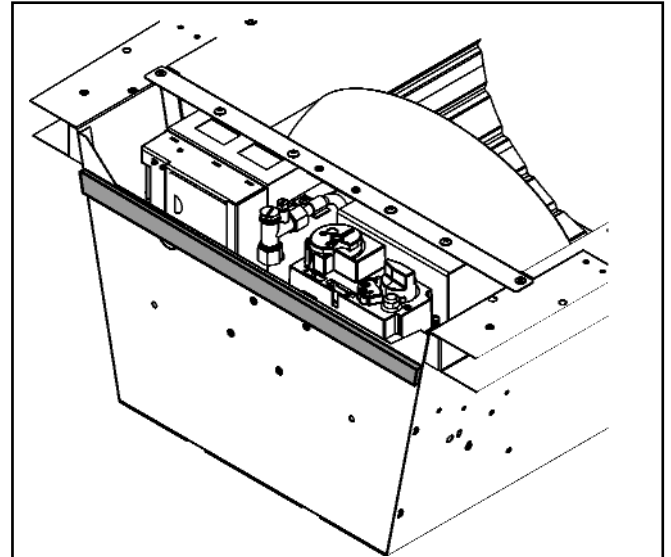

Figure 16. Fitting the foam seal to the base of the hotbox.
**9.** Supplied with the fire is a short and long length of self adhesive foam seal. Take the short length, peel off the adhesive backing and stick to the underside of the hotbox (See figure 16).